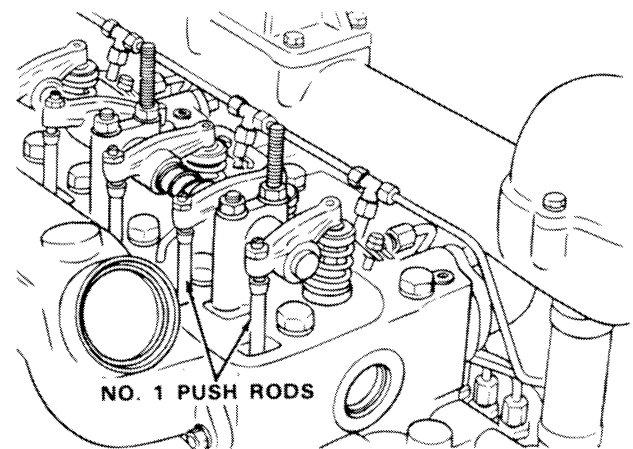

Figure 4-37. Adjusting Tappets, Cold Setting (Sheet 1 of 2)
c. Valve Tappet Adjustment, Cold Setting (figure 4-37).
- (1) Remove breather tube.
- (2) Remove valve covers and gaskets from all cylinders.
- (3) Crank engine until timing pointer is aligned with TDC timing mark on crankshaft pulley.
- (4) Check push rods on No. 1 cylinder for looseness. If push rods are loose, No. 1 cylinder is at TDC on the compression stroke. If push rods are tight, crank
- (5) Check and adjust the intake and exhaust valves as indicated by the arrows in step (5) of figure 4-37.
- (6) Crank the engine one complete revolution and align the timing pointer with the TDC mark on crankshaft pulley. Check and adjust the intake and exhaust valves as indicated by the arrows in step (6).